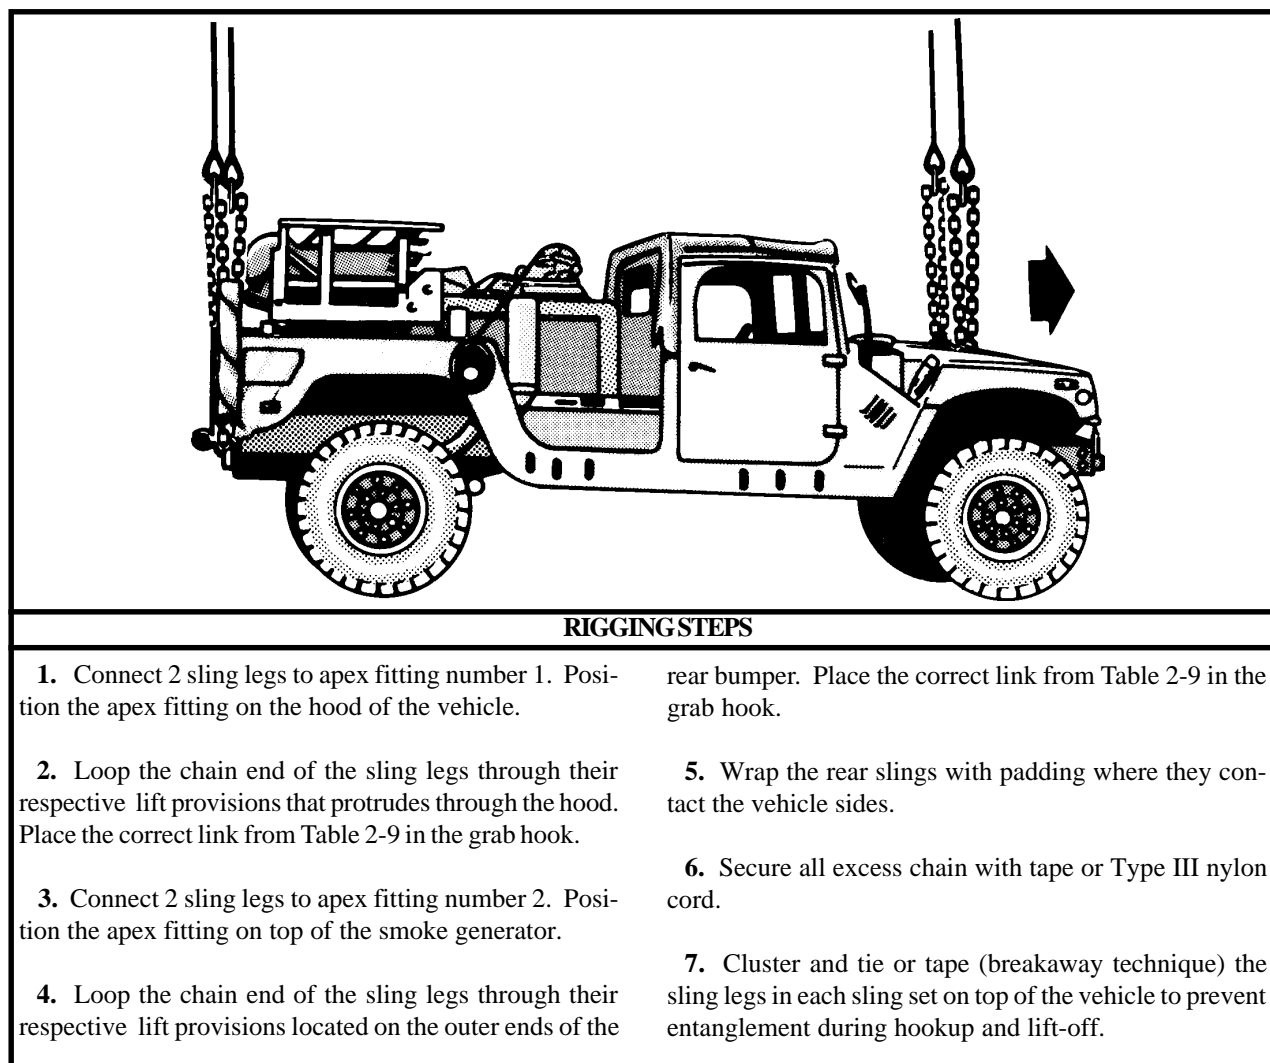

Figure 2-8. M157/M157A1E1 Smoke Generator Set Mounted on the M1037/M1097
(2) **Rigging.** Rig the load according to the steps in Figure 2-8.